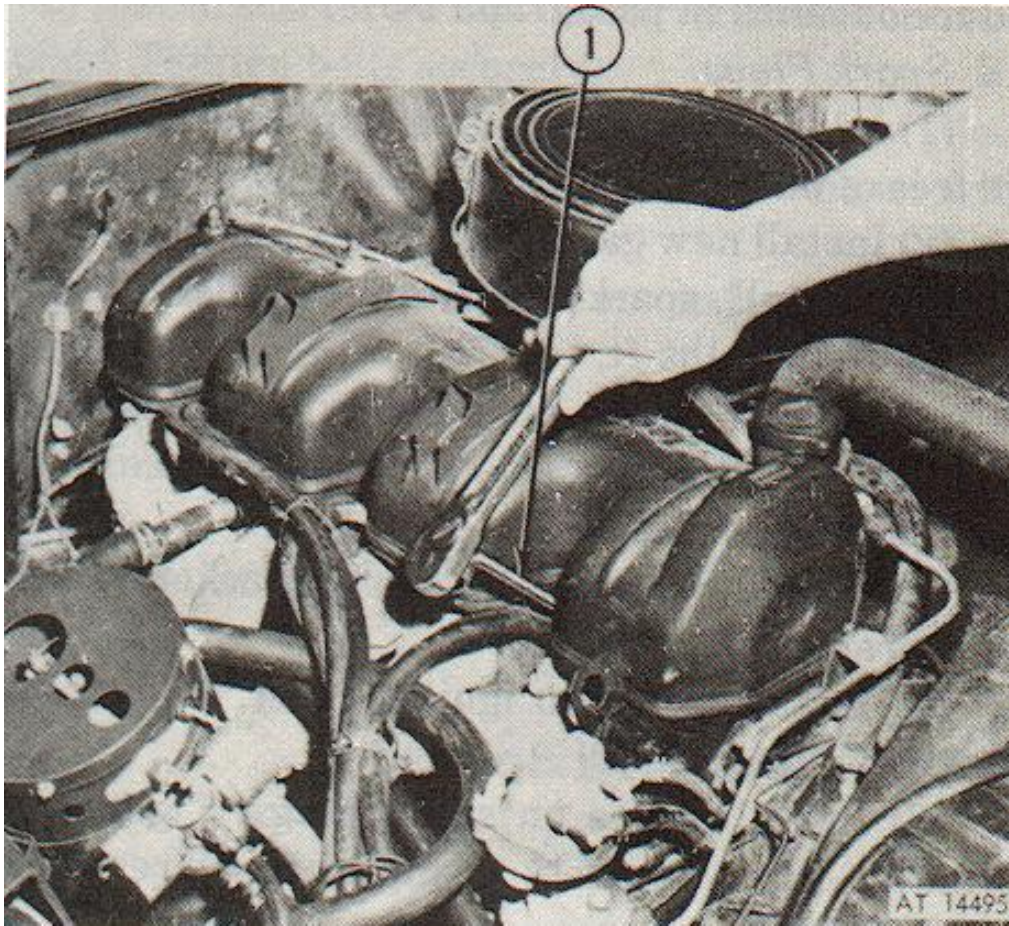

Figure 2-34. Spark plug and cable removal.
(1) Disconnect spark plug terminal nuts from spark plugs, using cable wrench FSN 5120-168-2283. (Fig 2-34)
(2) Remove all dirt from around spark plugs.
(3) Remove spark plugs by using a 13/16-inch deep well socket and turning counter-clockwise. Discard spark plug gaskets.